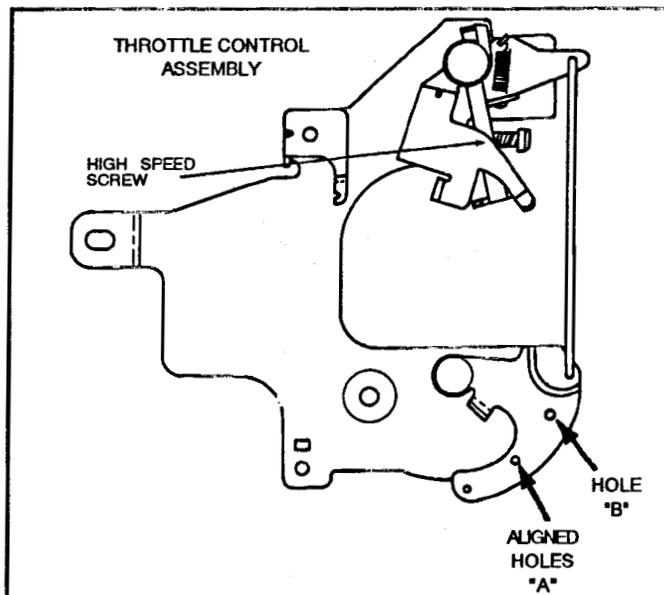

Figure 6
4. While the engine is running, move the speed control lever to the fast position until the hole "A" in the throttle lever aligns with the hole in the throttle control bracket. See Figure 6. Use a 1/8" (3 mm) diameter pin to hold the holes in position.